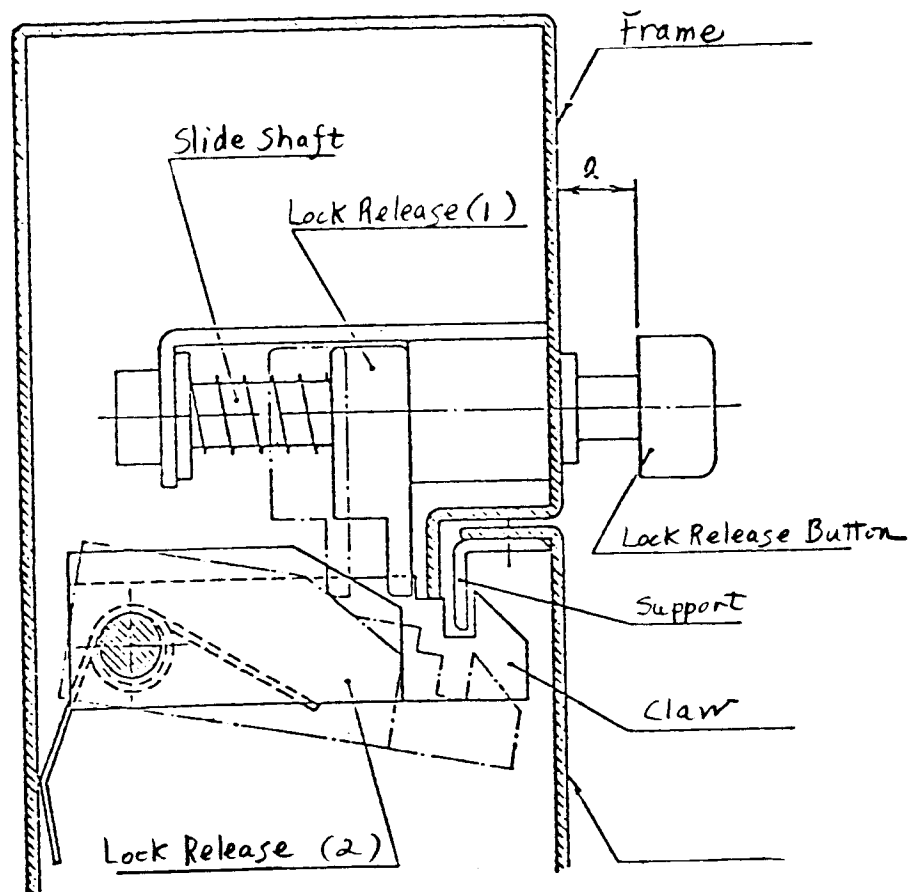

Fig. 2 Schematics of Lock Release Assembly
1. Loosen retaining screws of Lock Release (2).
2. Loosen screws connecting Lock Release (1) and Slide Shaft.
3. Move Slide Shaft so that the distance between Lock Release Button and Frame (distance "a" indicated in Fig. 2) becomes narrower.
4. Set Lock Release (1) to Slide Shaft at the adjusted position.
5. Press the angled edge of Lock Release (2) against Lock Release (1), and fix Lock Release (2) at the position.